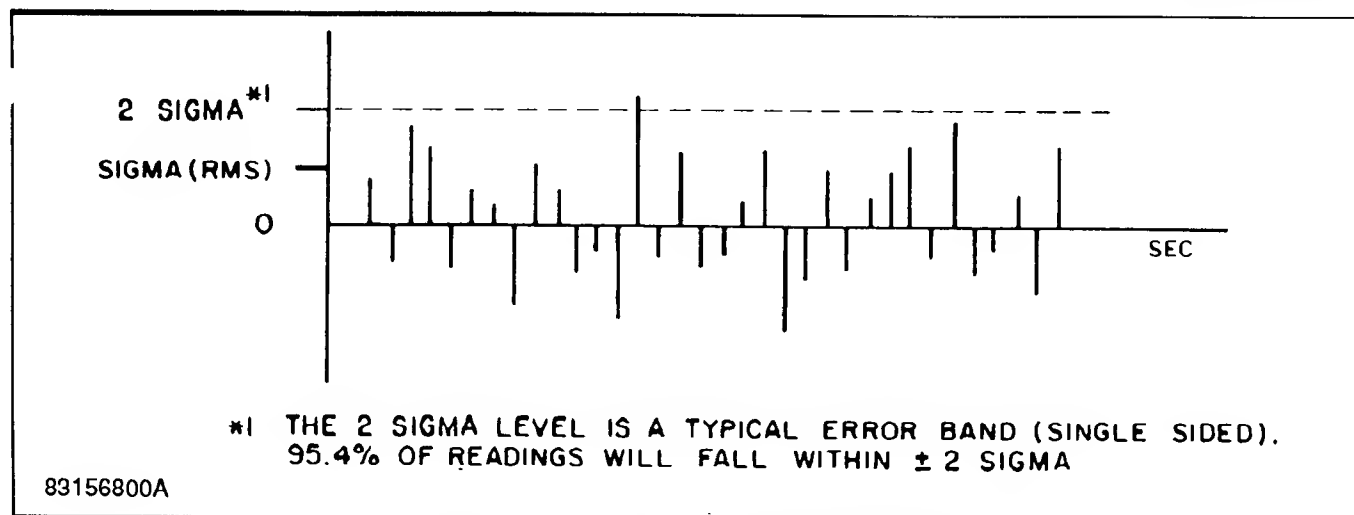

Figure 4-7. Typical Error Band Specifications.
**4-25. Error Computation.** Since the noise is Gaussian, both before and after filtering, statistics show the level of confidence factor that can be associated with a given reading. (At medium and high power levels, the confidence factor is essentially unity.) Figure 4-7 shows a typical set of samples and a typical error band specification of 2 sigma. Under these conditions, 95.4% of the readings will fall within  $\pm 2$  sigma.